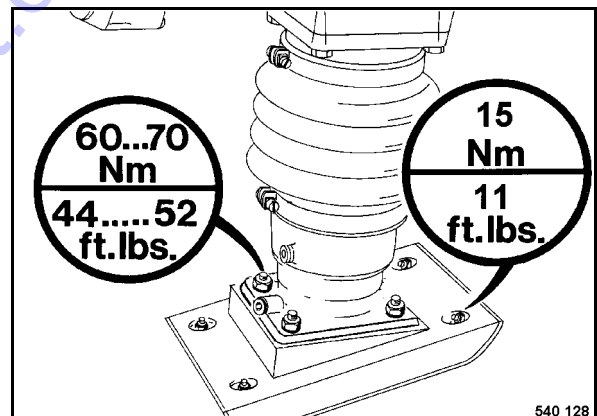

Fig. 40
- Retighten the screws (Fig. 40).